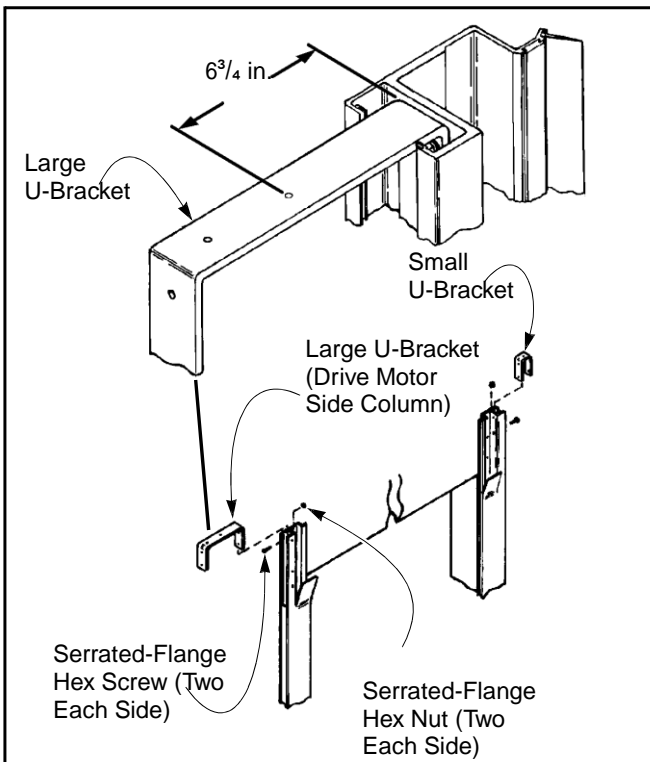

Figure 16
2. Attach a spreader assembly U-bracket on the outside face of each side column using two  $\frac{3}{8}$ -16 x  $1\frac{1}{4}$ -in. serrated-flange hex screws and nuts for each bracket. The U-brackets and mounting hardware were shipped in the small parts carton. (See Figure 16.)
**IMPORTANT:** *Attach the large U-bracket to the drive motor side column with the screw hole located  $6\frac{3}{4}$ -in. from the end of the bracket, nearest to the outside face of the side column. (See Figure 16.)*